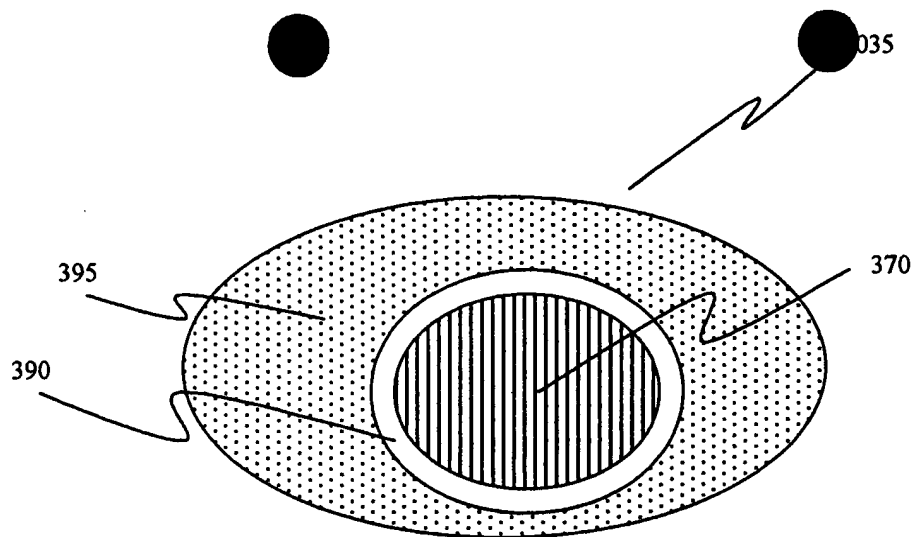

Figure 3C
Figure 3C is a cross-sectional diagram of a circular device. The device consists of several concentric layers. At the center is a core (390) filled with vertical hatching. This core is surrounded by a thin white ring (395). The next layer is a thick ring (370) filled with a stippled pattern. The outermost layer is a thin white ring. Above the device, there are two solid black circles. The circle on the right is labeled 035 and has a leader line pointing to the outermost white ring of the device. The circle on the left is unlabeled. The label 390 points to the central hatched core, 395 points to the thin white ring immediately surrounding the core, and 370 points to the thick stippled ring.